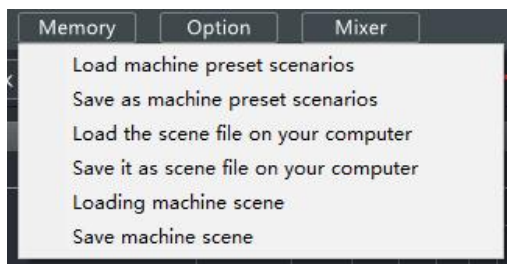

Figure 3.4.1
As shown in Figure 3.4.1 DA-810DSP software of the scene in three major types of actions: the machine stored scene data, computer data stored scene and the whole scene data manipulation.
Step1: Click on the main interface to the top menu " Memory " button will pop up all the scenes action item (see Figure 3.4.1).
- step1:** Click on the main interface to the top menu " Memory " button will pop up all the scenes action item (see Figure 3.4.1).
step 1: Click on the main interface to the top menu " Memory " button will pop up all the scenes action item (see Figure 3.4.1).
step1: Click on the main interface to the top menu "Memory" button will pop up all the scenes action item (see Figure 3.4.1)